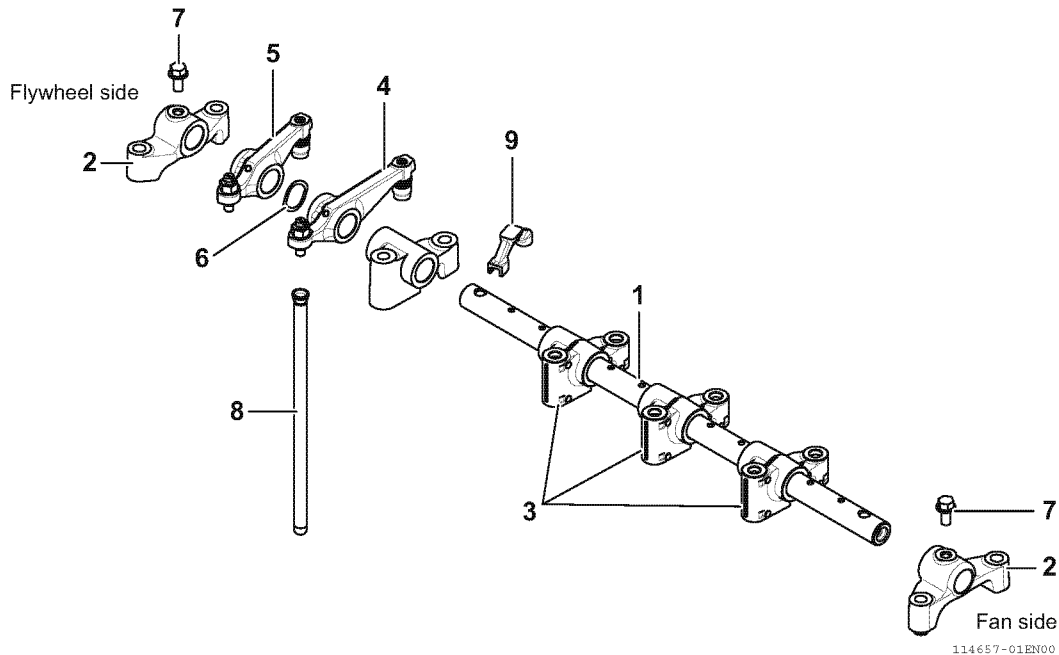

Fig.14-12
As shown in Fig.14-12 rocker arm assembly includes a rocker arm shaft support B (2) that supports both ends of the rocker arm shaft (1), and a rocker arm shaft support A (3) that supports the center part of the rocker arm shaft (1). Rocker arm shaft support B is fixed with fixing bolts (7). The rocker arm shaft has a rocker arm (intake) (4) and a rocker arm (exhaust) (5) to each cylinder, and the arms are retained by a wave washer (6).